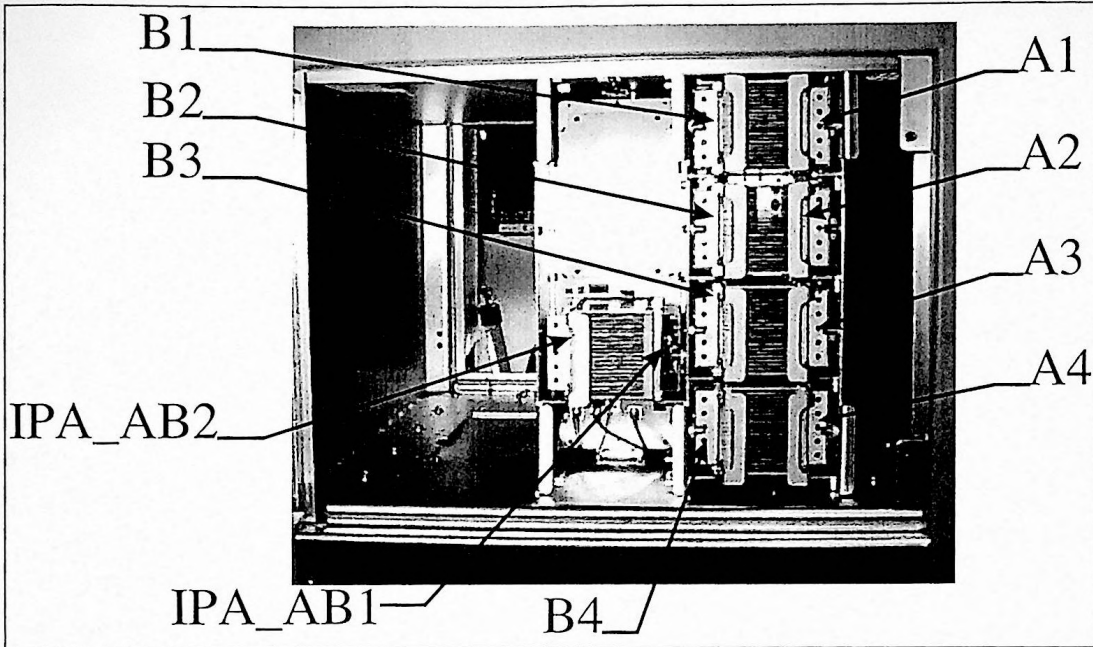
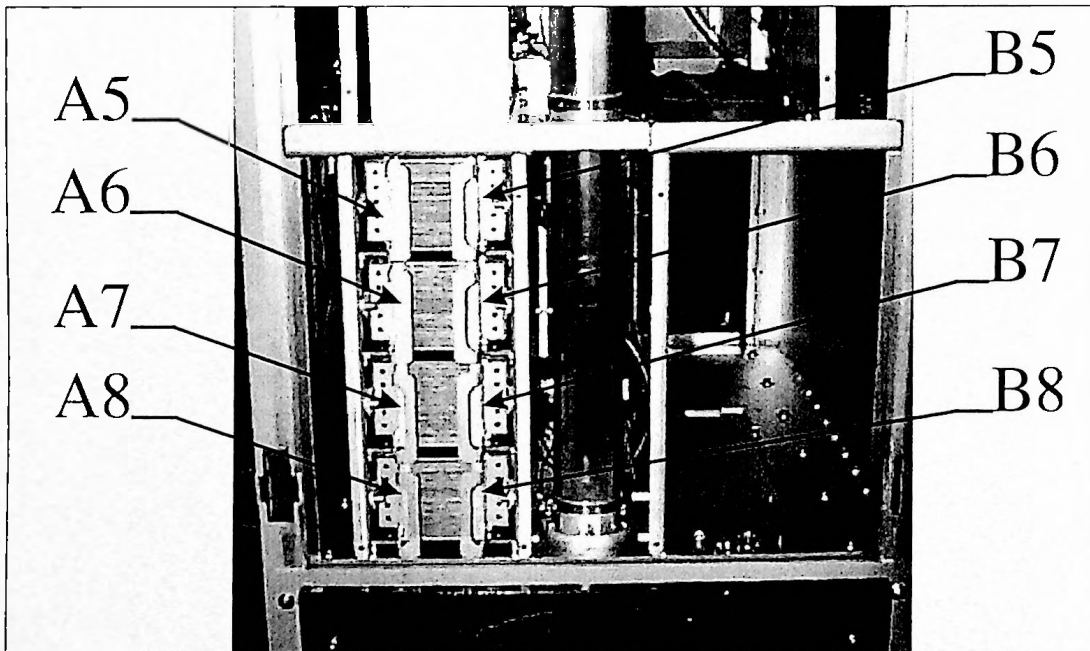

Figure 2-6 PA Compartment Front View
Figure 2-7 PA Compartment Rear View
STEP 6 If the PA VOLTS reading appears okay then shut the transmitter off and insert the PA and IPA Modules as directed below. See Figure 2-6 and Figure 2-7.